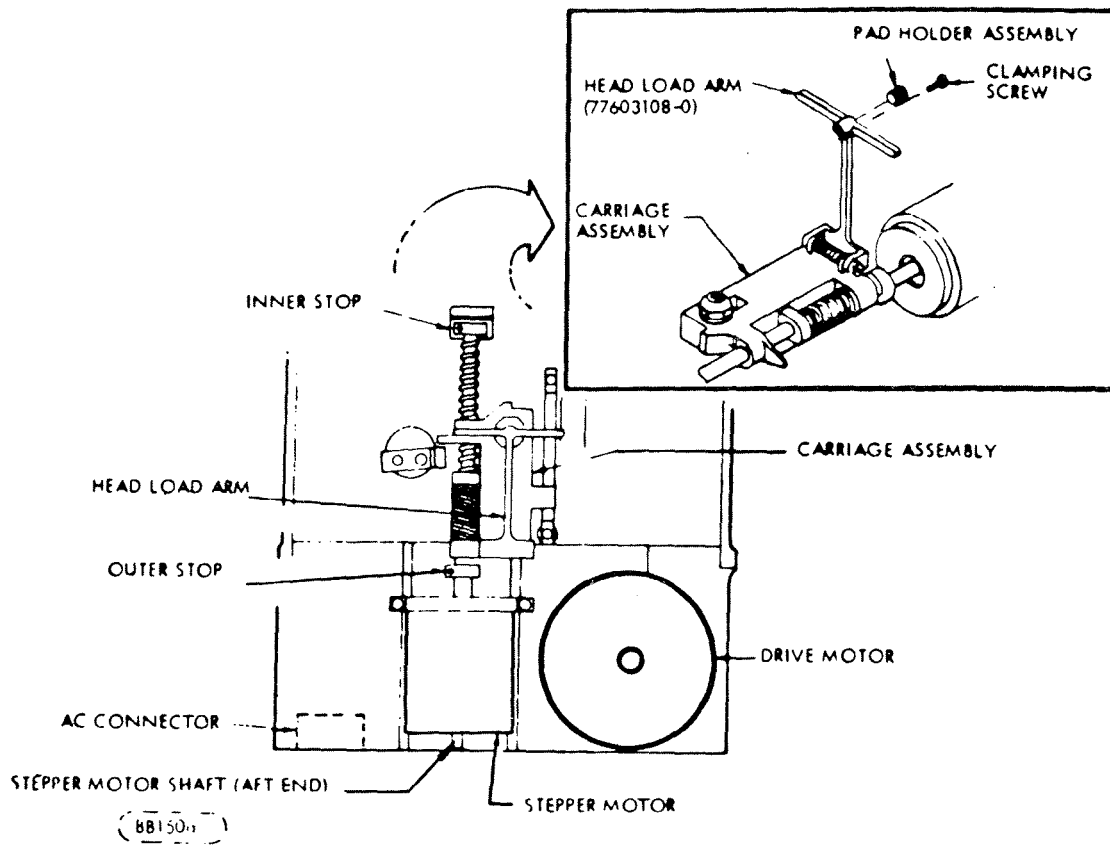

Figure 15.10 HEAD LOAD PAD REPLACEMENT
### REPLACING THE HEAD LOAD PAD (SEE FIGURE 15.10)
- . If head load arm is a 77603108 (figure 15.10) proceed four steps ahead, if not go to next step.